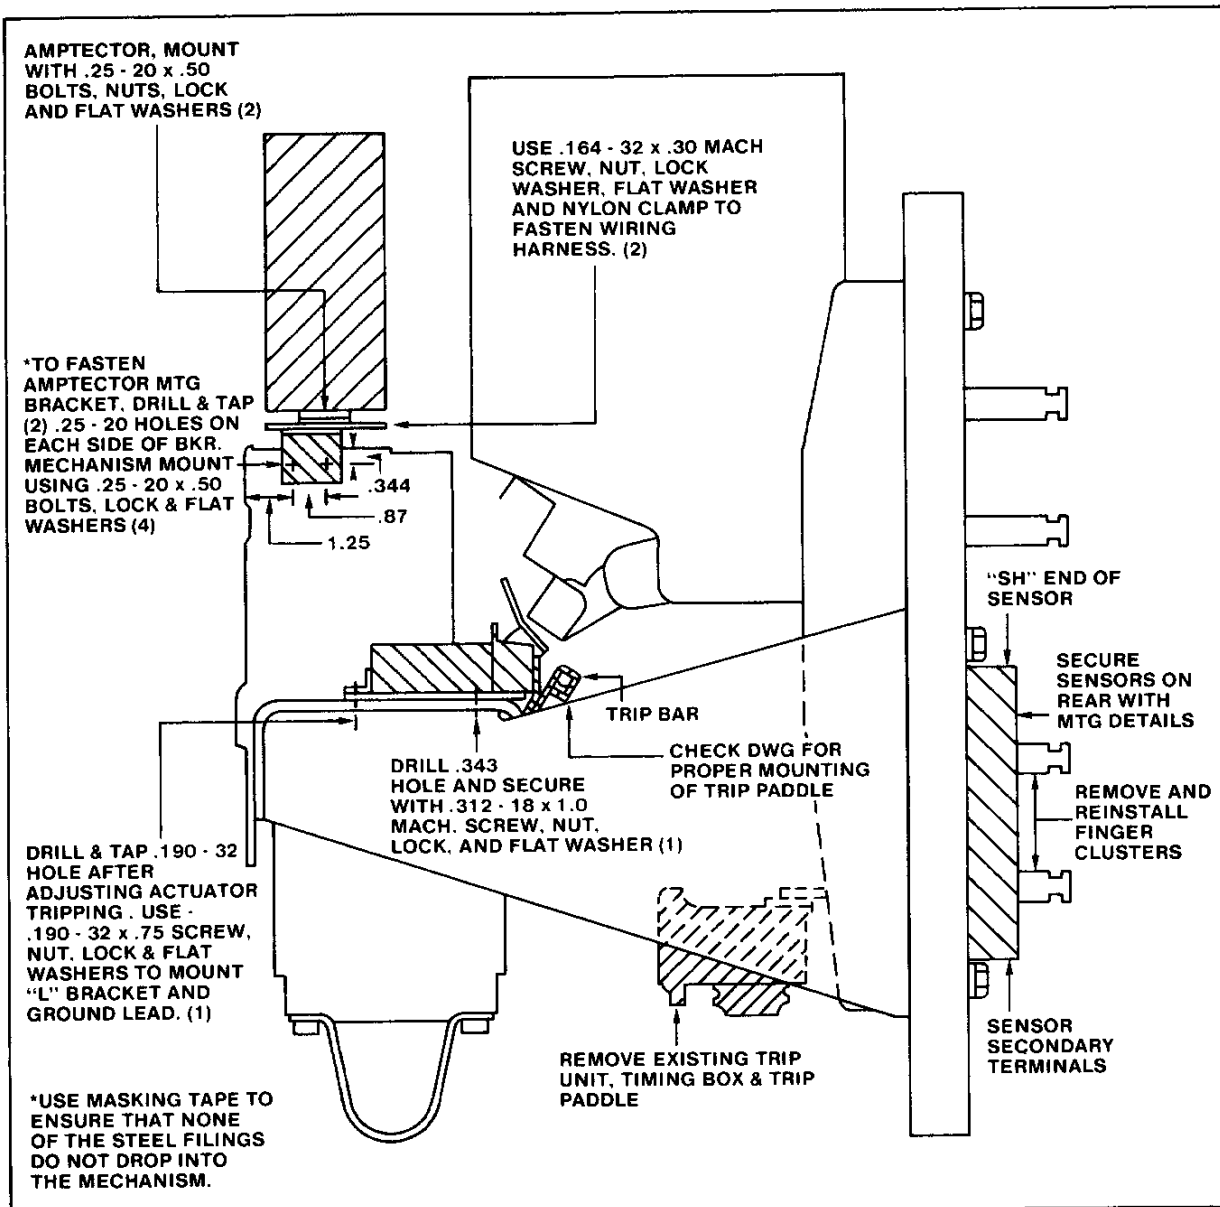

Fig. 25 Right Side View of DB-75 and DB-100
- B. Familiarize yourself with the right hand side view of the breaker, Fig. 25.
2. Drill and tap four (4) .25-20 holes, two (2) on each side .87" between centers, 1.25" from the front, and .344 from top of breaker mechanism side frame, see Figs. 25 and 30. It is recommended that .125 dia. holes be drilled first.
9. Wire the leads to the sensors and secure the wiring harness to the amptector mounting plate using the .203 dia. holes and .164-32 x .5 screw, nut, washers and nylon clamps, Fig. 25.